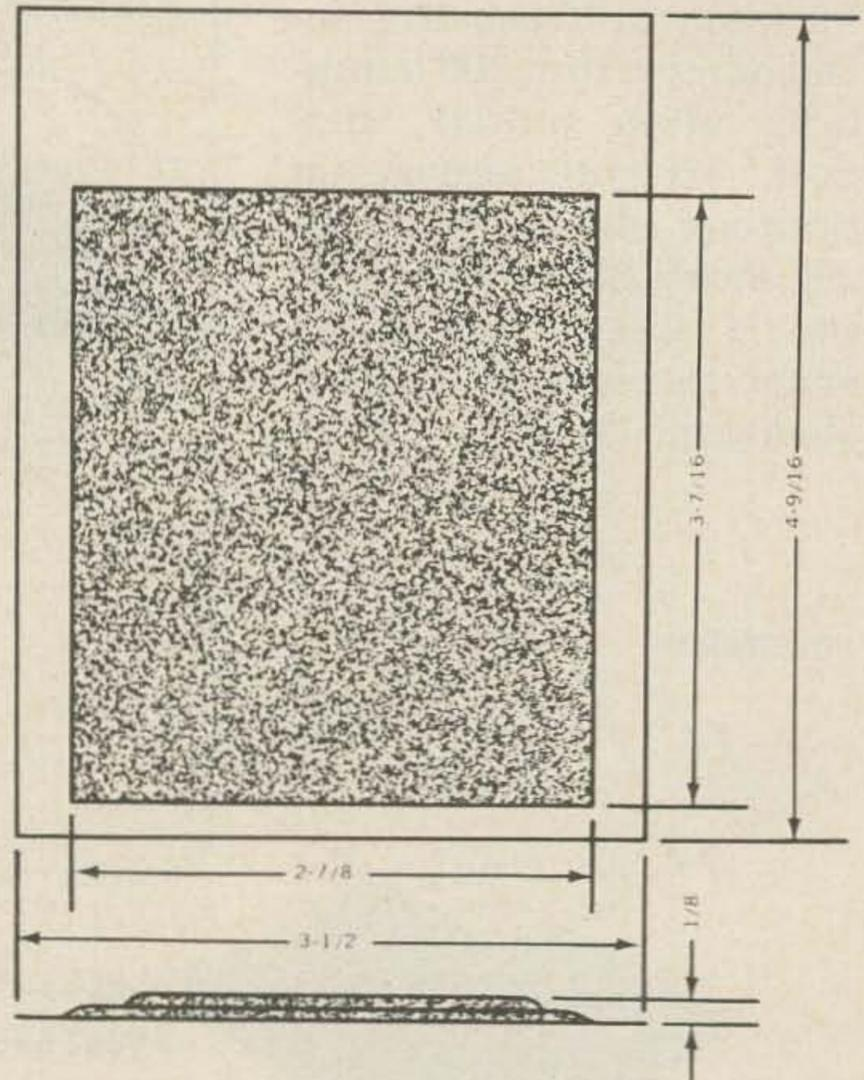

Fig. 2. P-70 dimensions.
produce a 6V battery that is protected by steel and mounted on a card for easy handling. This type of construction provides a large electrode surface area capable of producing high current with a small battery volume. Each individual cell is composed of a top sheet (A) of steel coated with zinc on its underside, a separator (B) and a conductive sheet (C) coated on the top side with manganese dioxide and coated on the bottom with zinc, see Fig. 1. The individual cells are electrically connected by the conductive sheet. When the cells are stacked, an adhesive perimeter (D) on each separator fastens the cells together. The steel top sheet wraps around to the bottom of the stack to permit the minus and positive terminals to be on at the same side. The pack is mounted on a cardboard sheet, insulated and sealed with a clear plastic film overwrap. The overall dimensions are shown in Fig. 2.